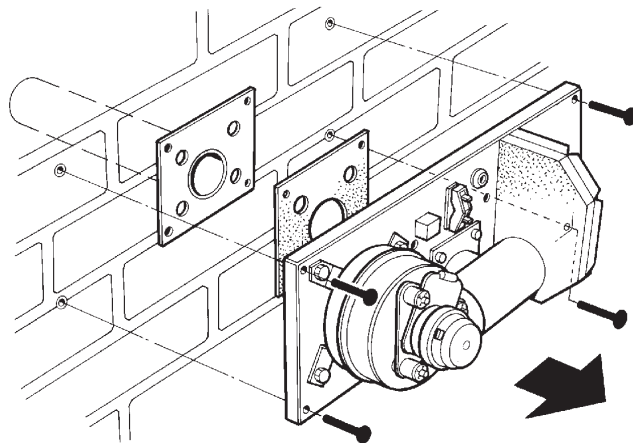

Fig. 16
5. Remove card template and place flue terminal assembly onto the hole. (See Fig. 16).